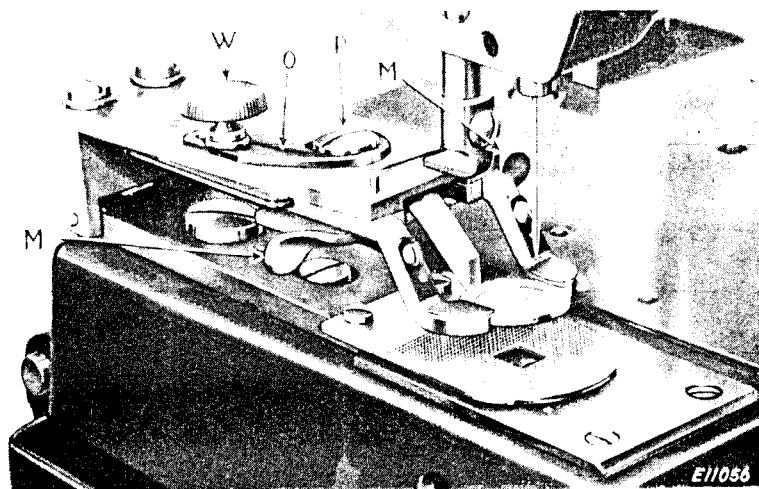

Fig. 7. To Adjust the Button Clamp Jaws
By means of the spreader (M, Fig. 7) open the clamp jaws and insert therein a button of the size to be sewn. Loosen thumb screw
(W) and move the hooked end of the lever (C) against the center finger screw (P) as shown in Fig. 7, then tighten the thumb screw (W).